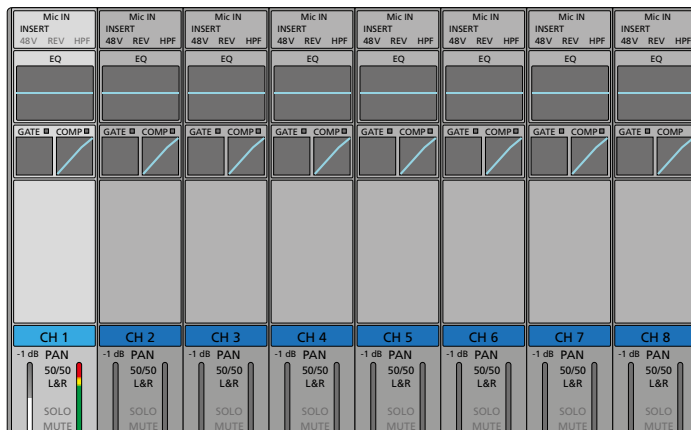
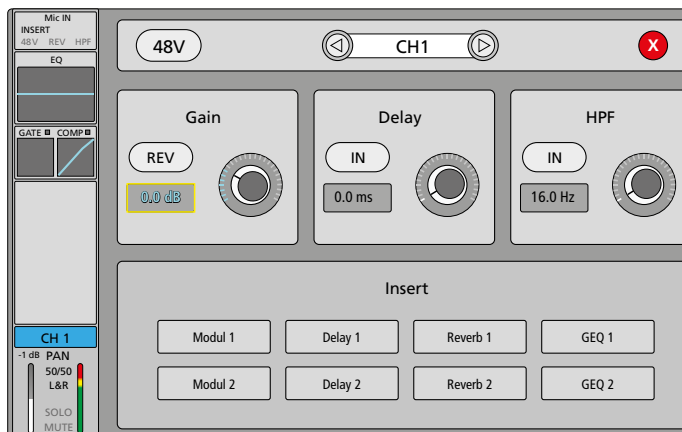

Fig. 4 Overview of input channels
Fig. 5 Matching the input
- 1) Keep the key  $\cup$  (2) pressed for approx. 5 seconds. After the start screen, the screen (1) will show an overview of the input channels IN 1–8 (fig. 4). The mixer is now ready for operation.
- 3) Press the key SEL (10) to select the input channel "CH 1". The key will be illuminated and the channel strip will be highlighted in the overview.
- 4) To call up the view for matching the input (fig. 5), tap the field "Mic IN" in the topmost section of the highlighted channel strip.
- 6) Use the control knob ADJUST (6) to adjust the input sensitivity in such a way that, when you speak into the microphone in a loud voice, the bar graph at the bottom of the channel strip will change from green to yellow at the very most. The LED VU meter (8) will also indicate the signal level. When the bar graph reaches the red level, turn back the control; otherwise, the signal will be distorted.